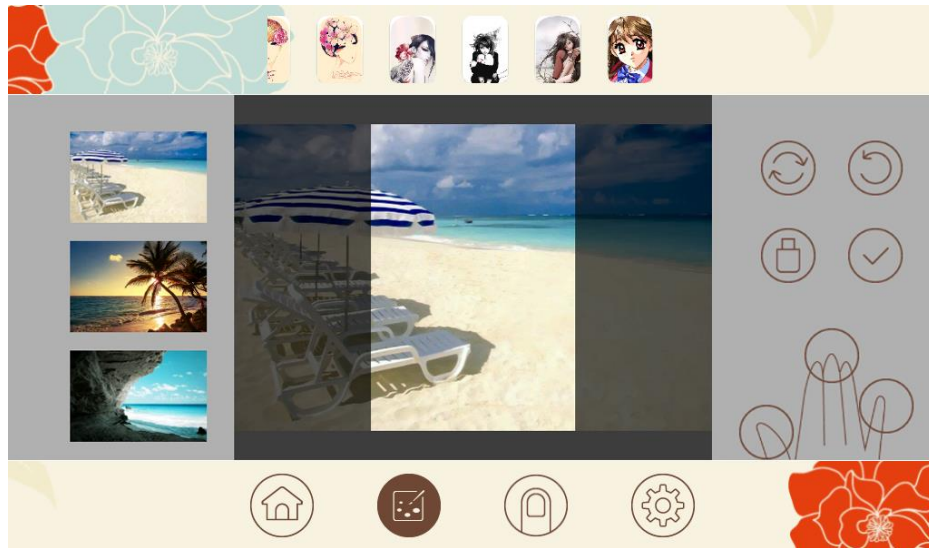

Figure 6
- (1) Press , enter the editing interface of customized picture, as shown in Figure 6.